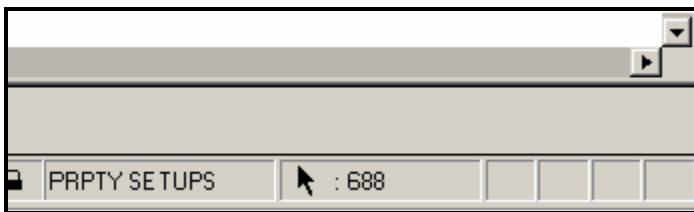

Figure 2-31: Count of Elements
- 🎵 Notice that when you add elements to a *Selection Set*, MicroStation displays the number of elements you have selected. This number is displayed in the right corner of your *Status Bar* as shown in Figure 2-31.